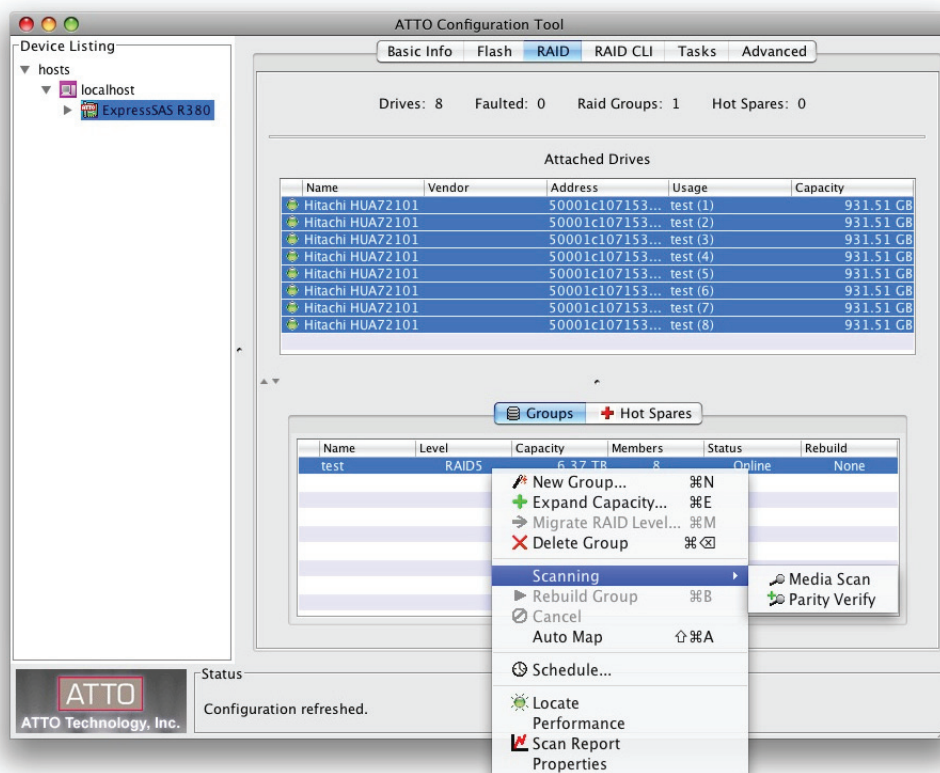

Figure 23
2. Control-click (or right-click) the RAID group and select Media Scan or Parity Verify (Media Scan + Parity Verify) from the drop menu. See **Figure 23** on page 28. You may also select RAID Management > Scanning > Media Scan (or RAID Management > Scanning > Parity Verify) from the application menu.